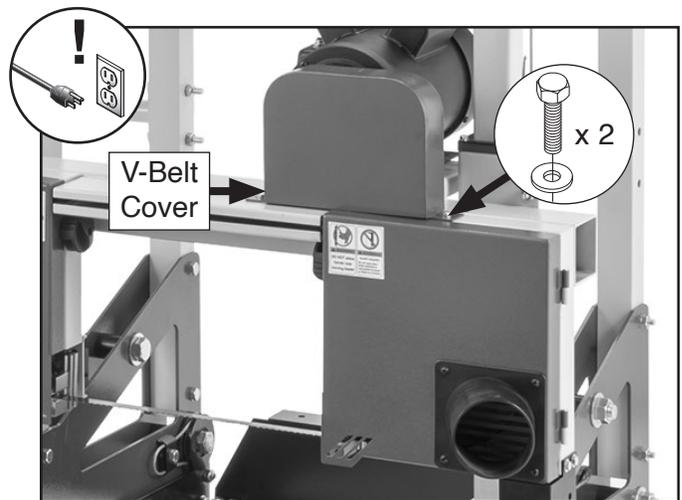

Figure 104. Location of V-belt cover and fasteners.
2. Remove (2) hex bolts and flat washers shown in **Figure 104** to remove V-belt cover.